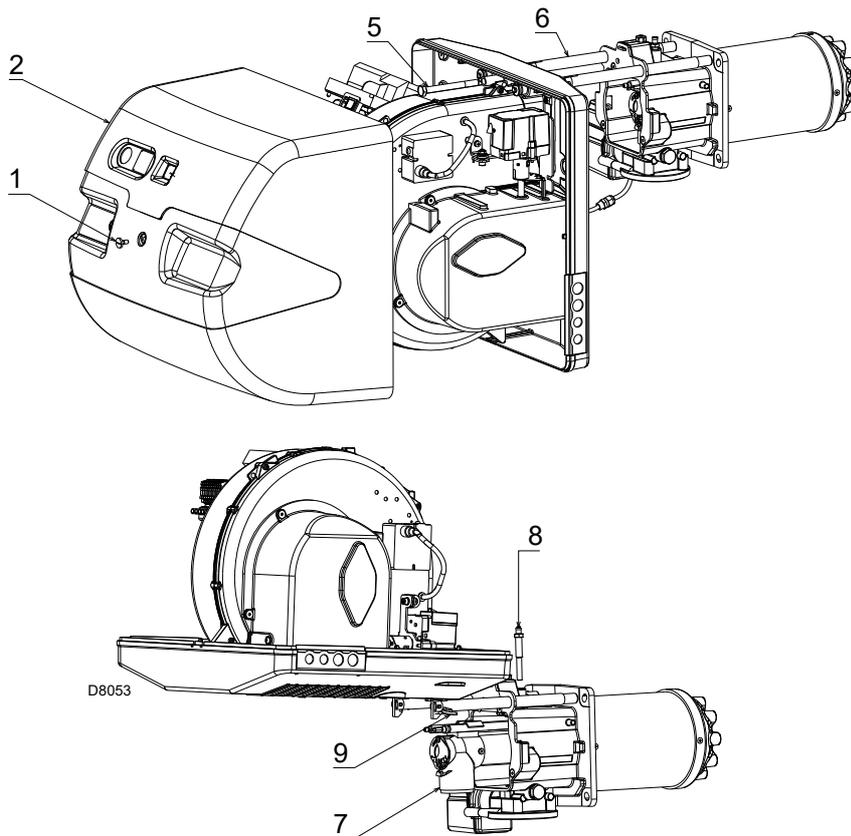

Fig. 37
- Loosen the screws 1)(Fig. 37) and remove the cover 2).
- Remove the split pin 9)(Fig. 37) and push the burner until it is approx. 100 mm from the pipe coupling.